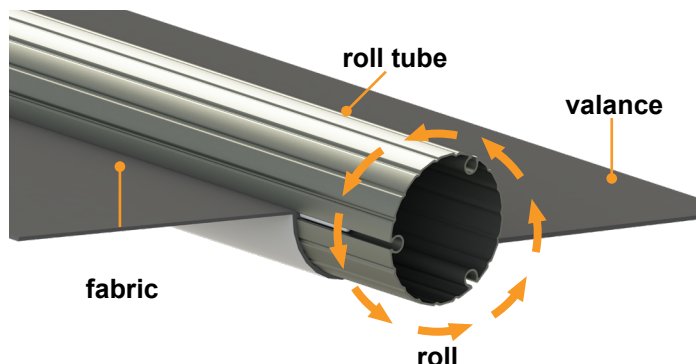

Fig.4
4. Roll the fabric onto the roll tube, (Fig.4). and reinstall the fabric screw into the roll tube. Make sure the fabric stays snug and flat to the roll tube **with the printed side facing away from the tube.**